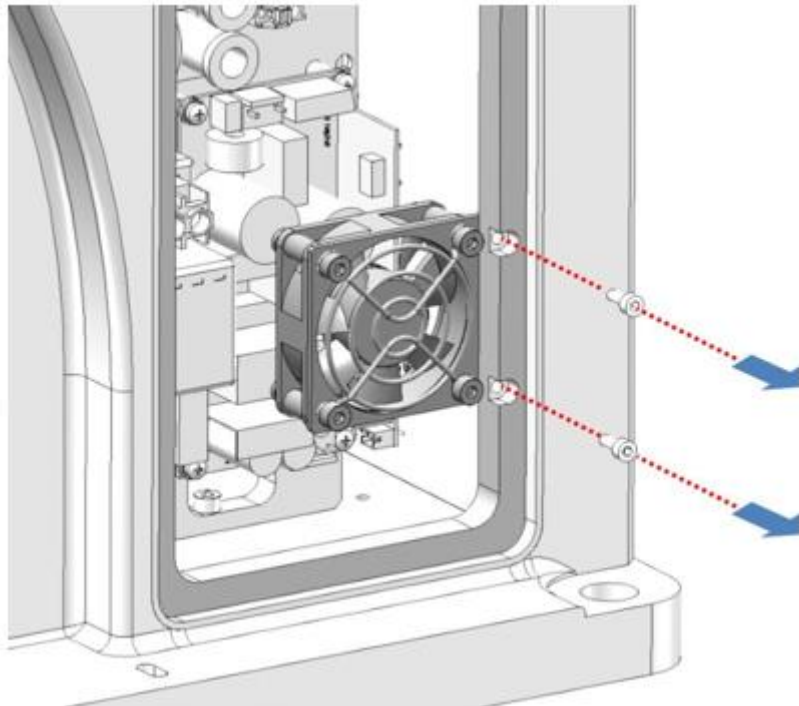

Figure 5-10 Remove the power module cooling fan
Step 5 Use 6 mm Allen wrench to remove the fastening screws from the power module cooling fan, as shown in Figure 5-10.